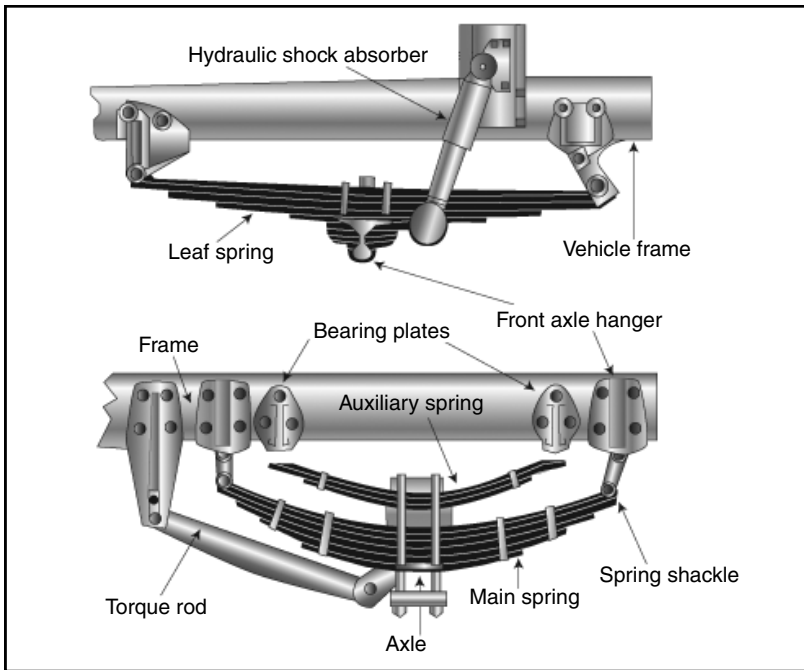

Figure 2.2
- Spring hangers that allow movement of axle from proper position. See Figure 2.2.